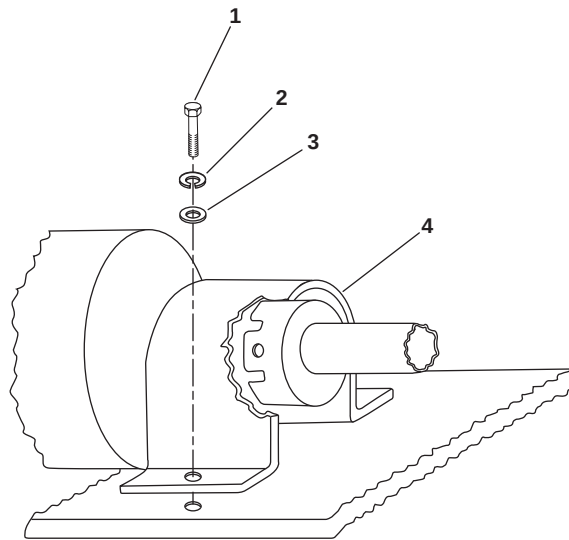

Figure 2. Coupling Guard
5. Remove the two bolts (figure 2, item 1), two lockwashers (figure 2, item 2) and two flat washers (figure 2, items 3) from coupling guard (figure 2, item 4). Discard the lockwashers.
6. Remove the coupling guard (figure 2, item 4).
9. Install the coupling guard (figure 2, item 4) and secure it with two bolts (figure 2, item 1), two new lockwashers (figure 2, item 4), and two flat washers (figure 2, items 3).